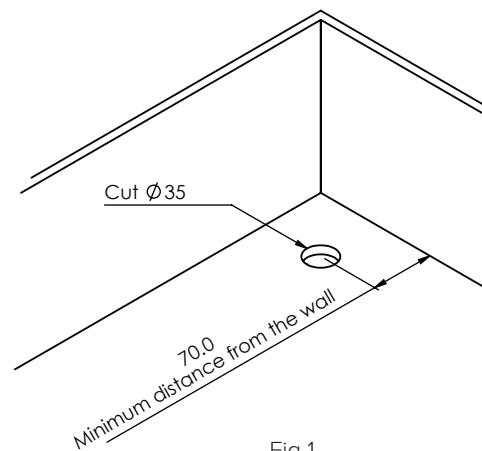

Fig 1
1. Cut a mounting hole 35mm in diameter. There must be a minimum 70mm width of flat around the hole. (See Fig 1)